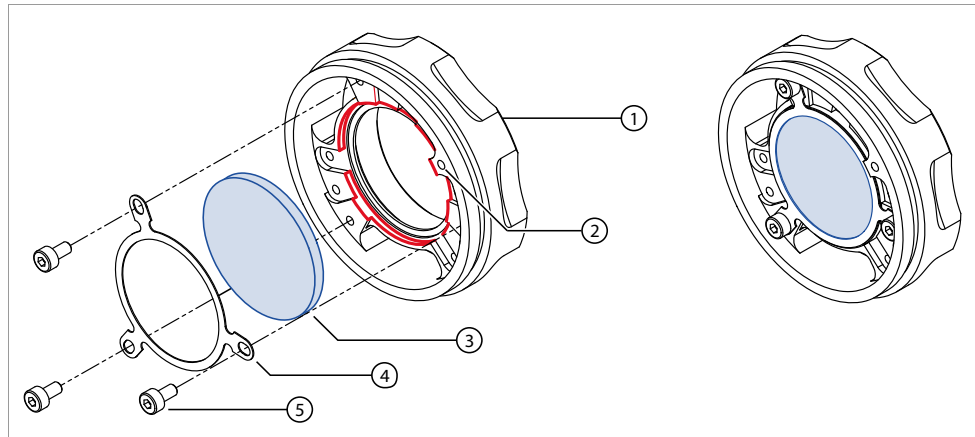

Figure 34: Changing the filter in the C-Mount adapter
- See Figure 34 on page 142 (blue = filter, red = filter recess).